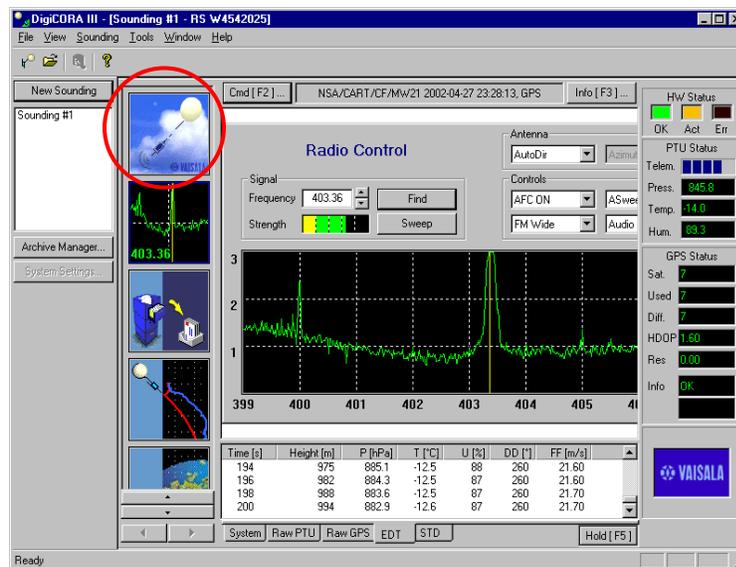

Figure 11
33. Once the system has found the radiosonde, click on the top left icon (see Figure 11) to get back to the control screen.